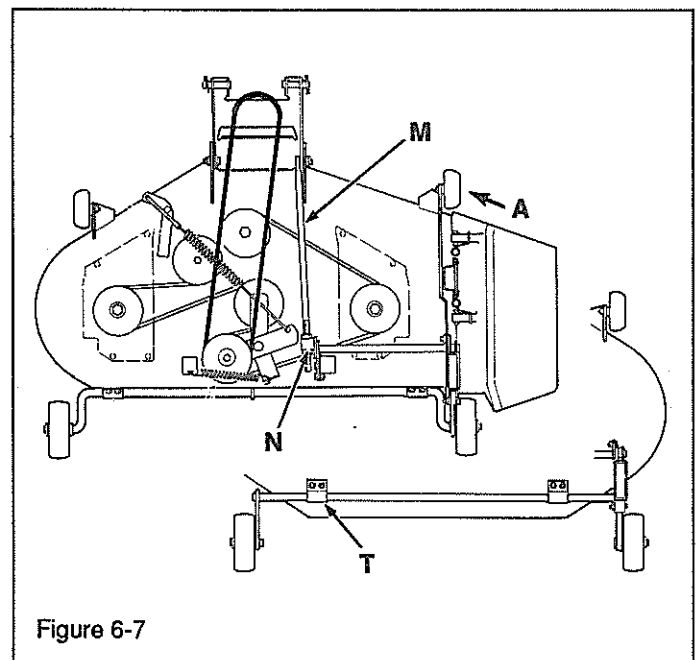
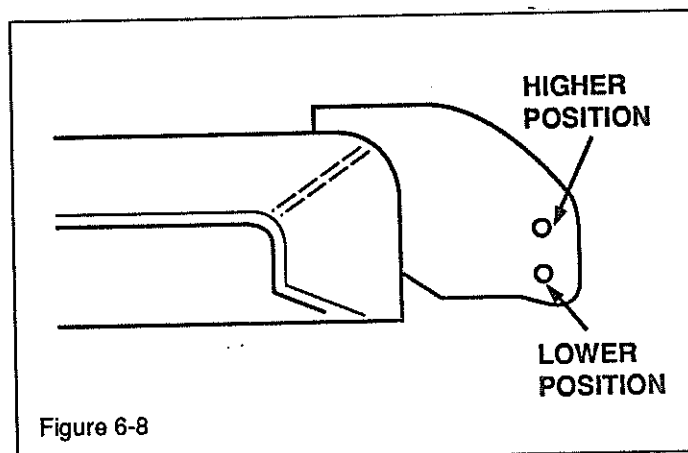

Figure 6-7
Figure 6-8
- c. Turn blades so they align lengthwise with the tractor. Measure the distance from the front edge of the blades to the ground and from the rear edge of the blades to the ground. Both measurements should be equal. If not, adjust length of rod (M, Figure 6-7) at pivot (N).
- b. If mower is not level, loosen nuts at left gage wheel bracket (T, Figure 6-7). Adjust bracket height and re-tighten nuts.
- b. If cutting height is set at 3 inches or higher, move the anti-scalp wheels (A, Figure 6-7) to the lower position as shown in Figure 6-8.
- c. If cutting height is set less than 3 inches, move the anti-scalp wheels (A) to the higher position.